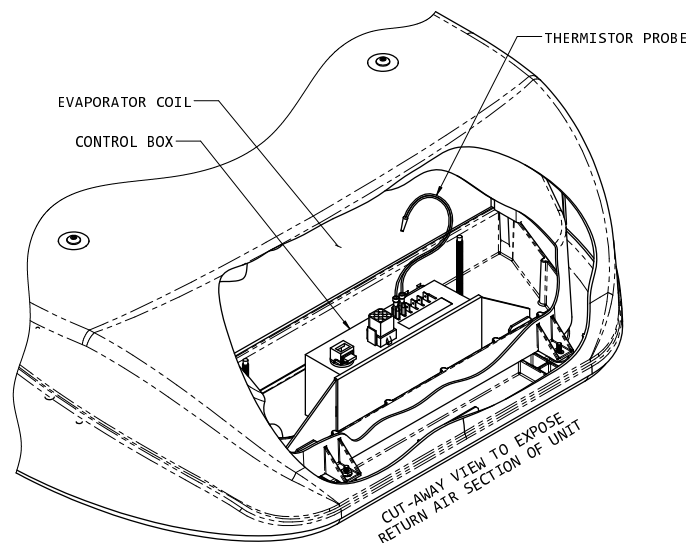

FIGURE 4
1. Two machine screws are on the upper units. The control box will be mounted by positioning the control box over the screws and using the wing nuts to fasten the control box to the upper unit. Installation in a 47000 series unit will require mounting the control box with the wires exiting upwards (See Figure 4).